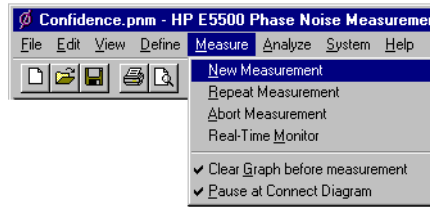

Figure 7-7 Selecting a New Measurement
- 1 From the **Measurement** menu, choose **New Measurement**. See Figure 7-7.